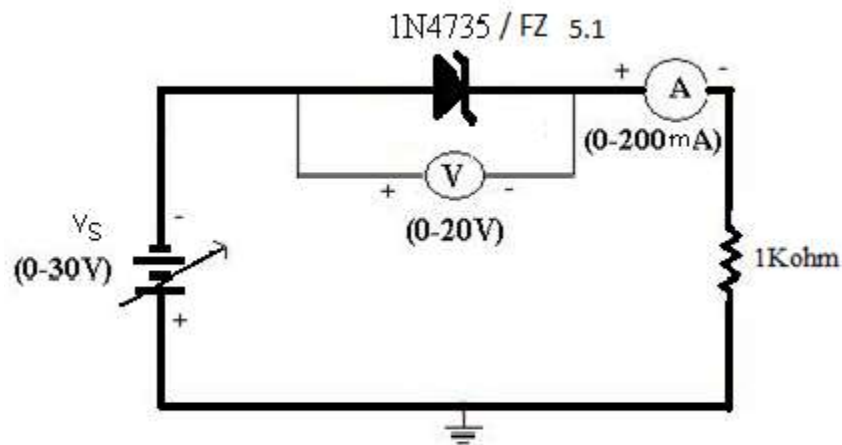

Fig. 1: Forward Bias Condition
1. Connect the circuit as shown in fig.1.